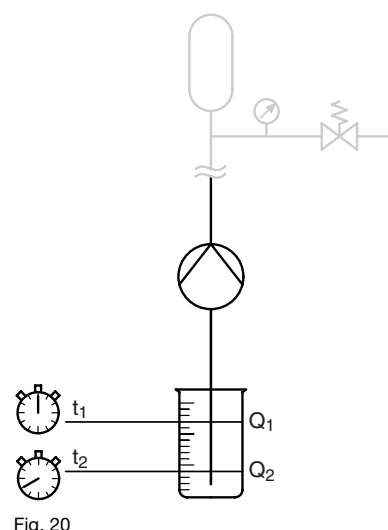

Fig. 20
3. Remove the cover (4) from the stroke adjustment knob and slacken off the screw (3) beneath slightly
4. Feed the suction tubing into a measuring container (fig. 20)
12. Turn the indicating dial (1) only until the 100 % marking is precisely above the indicating slit (2).
13. Carefully tighten the screw (3) in the stroke adjustment knob and replace the cover (4).